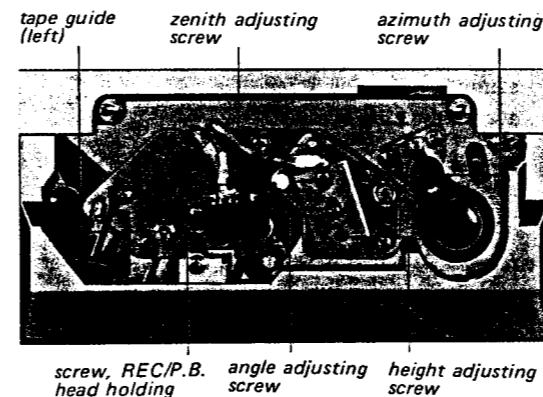

Fig. 9-2 Adjusting parts location (2)
- tape guide (left) ..... See Fig. 9-2.
- (1) Thread a tape.
- (2) Align the upper edge of the tape just on the upper edge of the erase head core by turning the tape guide located on the left side of the erase head.
- (3) Turn the tape guide located on the left side of the erase head clockwise by approximately 35° from the position obtained in the preceding procedures, so that the upper edge of the tape is approximately 0.05 mm lower than that of the erase head core.
- ..... See Fig. 9-2.
azimuth adjusting screw } ..... See Fig. 9-2
- (1) Be sure that the head is secured sufficiently to the head deck with the holding screw shown in Fig. 9-2, and the tape pass adjustment has been made.
- (2) Playback the 1st tone (10 kHz) of SONY alignment tape, J-19-F1 or J-19-K1.
- (3) Adjust the azimuth adjusting screw with a non-magnetic screw driver to obtain the maximum reading on the VTVM in both L-CH and R-CH. If the maximum value of R-CH is not the same as that of L-CH, adjust the screw to obtain the mean value of both L-CH and R-CH maximum readings.
- (4) Adjust the angle of the head by loosening the two angle adjusting screws so that the output level is maximum and the level variation within 1 dB on the VTVM.
- (5) Make the head azimuth adjustment again.